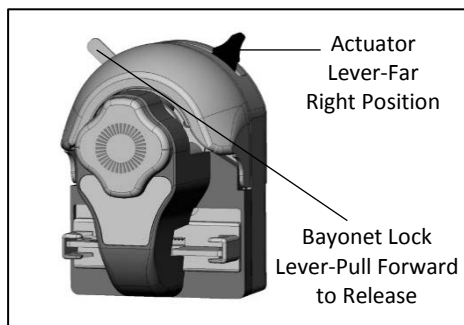
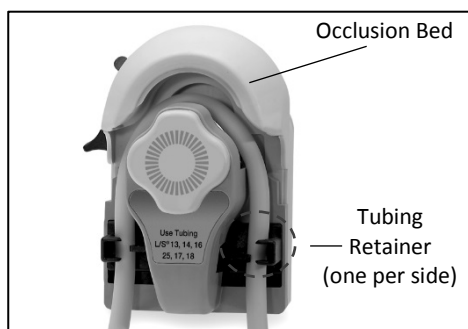

Figure 5: Pump head in fully closed position
Figure 7: Tubing path through pump head – during loading
3. Remove the pump head from the drive by holding the bayonet lock lever forward while rotating the pump head as far as possible in the counterclockwise direction, then pull the pump head away from the drive to detach it. The actuator lever should be in the far right position when removing the pump head (see Figure 5)
1. To load tubing, open the pump head by moving the actuator lever counterclockwise (see Figures 5 and 6). Insert a loop of tubing into one open tubing retainer, between the occlusion bed and the rollers and into the other tubing retainer (see Figure 7). Position the tubing so that it is firmly centered against the rollers. While holding the tubing ends, move the actuator lever back to the far clockwise (right) position, as shown in Figure 5. The pump head will automatically grip the tubing. Approximately 5 pounds of force must be applied to the actuator lever to fully close the pump head and place the lever in its locked position (far right position) or to fully open the pump head (far left position)
NOTE: When pump is not being used, store with actuator lever half way between far left and far right positions (see Figures 5 and 6).